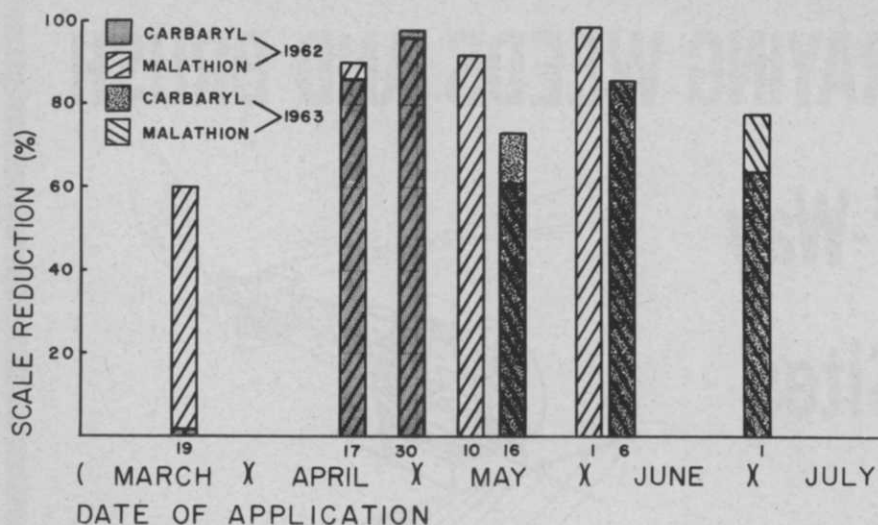

Figure 2. Number of pit scale crawlers trapped per day on 17 sticky bands placed on oak twigs.
*terolecanium minus* Lindinger, the dominant species on Valley oak (*Quercus lobata* Née) in California, were conducted during 1962-3. The adult scales, all of which are females, produce living crawlers from April until October. These young are typically produced in two rather distinct "broods," the first of which reaches maximum proportions in May, and the second in July (Figure 2). The crawlers move about for several hours before settling on a twig, where they remain for the rest of their lives. Crawlers, except those produced very late in the season, reach maturity by the fall of the year, and the cycle begins again the following spring. There is never